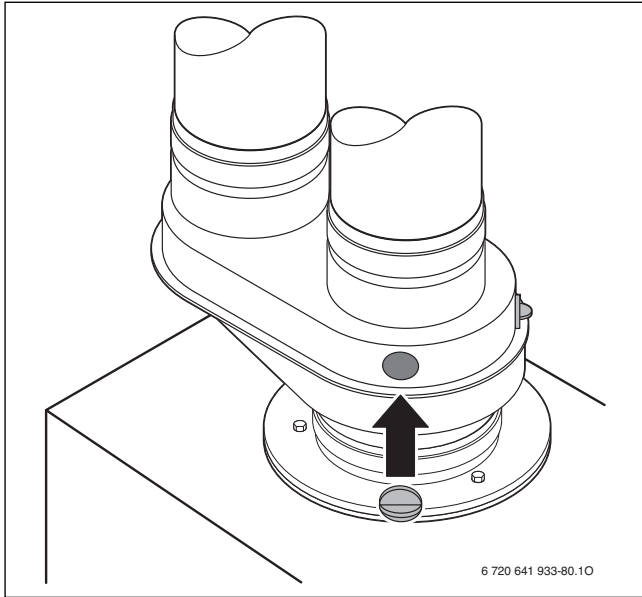

Fig. 62 Close flue gas test ports
- ▶ Remove the flue gas probe and seal the flue gas test port properly (→ Fig. 62, page 45).